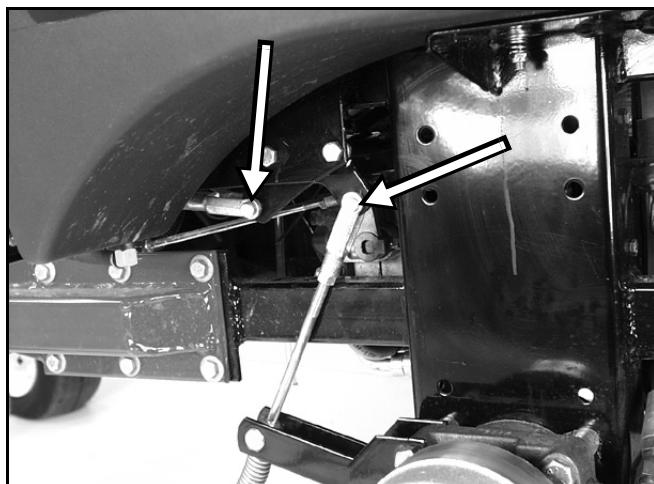

Figure 80 1030-005
7. Remove the 3 clevis pins from the brake rods and remove the brake rods from the brake shaft (Figure 80). The third pin is on the opposite end of the brake shaft.